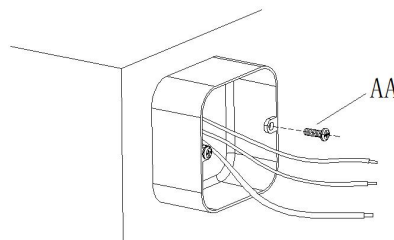

Figure 2
1. Install the two screws(AA) into the junction box.(Figure2)